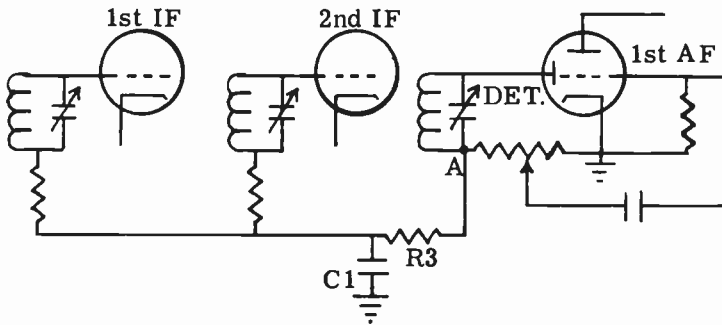
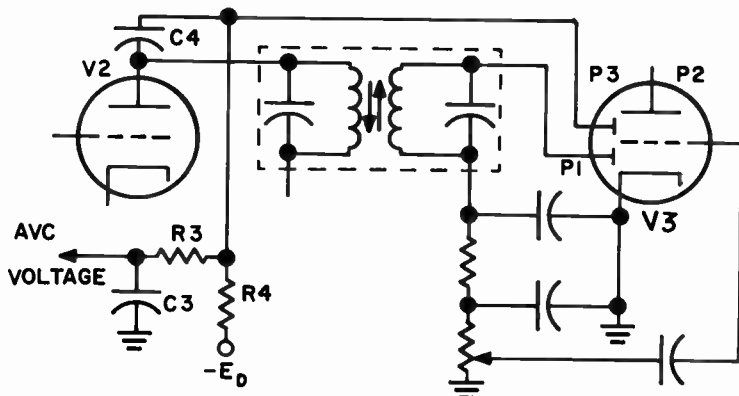

FIG. 15-15. AUTOMATIC VOLUME CONTROL CIRCUIT.
FIG. 15-17. A DELAYED AVC CIRCUIT.
**AUTOMATIC VOLUME CONTROL.** Controlling the volume by varying the load resistor of the diode detector is a simple, satisfactory method. However, by itself, this method leaves a certain amount to be desired. For instance, every time we change from one station to another of different signal strength, we must reset the volume control. It would be far better to set the volume control at a desired level and have the audio output remain constant, regardless of the strength of the incoming signal. This can be accomplished by means of a system known as **AUTOMATIC VOLUME CONTROL** (abbreviated AVC). Fig. 15-15 shows a circuit using this system.
The audio output voltage of the diode detector is developed at point A. See Fig. 15-15. This voltage varies directly with the strength of the incoming signal. As the strength of the incoming signal increases, the audio voltage at point A increases; as the strength of the incoming signal decreases, the audio voltage at point A decreases. The audio voltage at point A is fed back through a filter (C1, R3) to the grids of the IF amplifiers. This voltage can also be fed to the grid of the RF amplifier, if the superheterodyne has one.
the receiver constant. Let us assume that we are listening to a certain station and have set the volume control to the desired audio output. We then change to a station whose incoming signal is stronger than the first station. This station will produce a larger audio voltage at point A (Fig. 15-15) than the
A sensitive voltmeter, placed between point A and ground, with the negative test lead at point A, will read the AVC voltage. The meter should be at least a 20,000 ohm per volt type, or, a VTVM could be used. If there is a defect in the receiver up to the AVC test point, this AVC voltage will be affected. By injecting a signal, from a signal generator, at various points, the defective stage can be located. For instance, let us assume that there is a defect in the 1st IF stage of Fig. 15-15. When the signal generator is placed at the grid of the 2nd IF stage, the voltmeter at point A will read properly. When the signal generator is placed at the grid of the 1st stage, the voltmeter, which should show an increase in voltage, will now drop to a low value or to zero. We now know that there is something wrong in the 1st IF stage and we can localize the trouble to the bad component with the use of a volt-ohm-milliammeter.
The way to accomplish this is through the use of a Delayed AVC circuit (DAVC). Fig. 15-17 illustrates a basic DAVC circuit. Unlike the AVC circuit of Fig. 15-15, the DAVC part of this circuit is completely separate from the detector circuit. The DAVC section consists of capacitor C4, a second diode plate (P3) in tube V3, resistors R3 and R4 and capacitor C3. A special bias voltage  $E_d$  is applied to the DAVC circuit through R4.